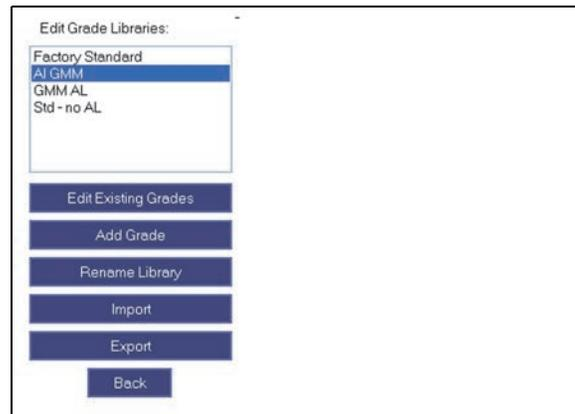

Figure 2-18 The Edit Grade Libraries pane
1. Under **Edit Grade Libraries**, select the grade library that you want to receive the imported grades (see Figure 2-18 on page 60).